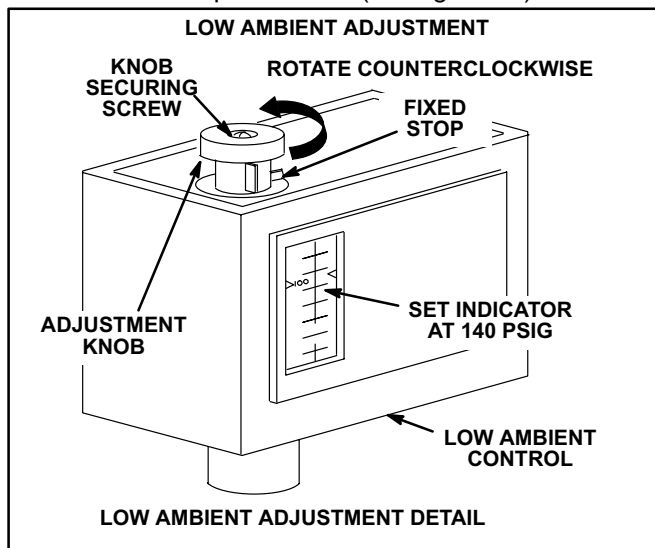

FIGURE 34
- 1 - Loosen knob securing screw to allow knob stop to pass over fixed stop on control (see figure 34).